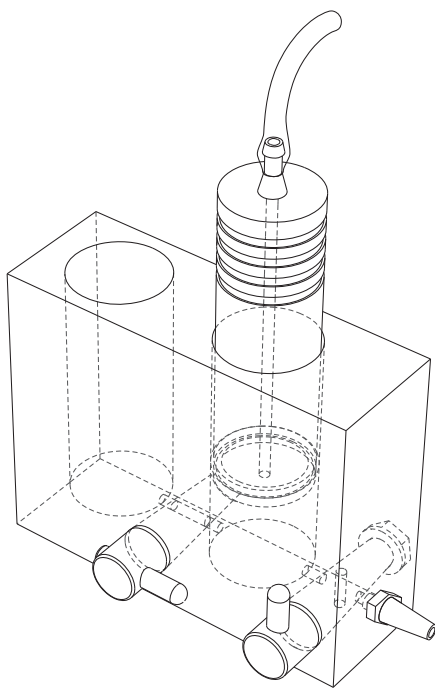

Fig 2. Gradient maker with plunger in place.
6. Add the required volume of the starting solution to the mixing chamber. With the plunger vent open, insert the plunger into the mixing chamber and press it down until it is just above the surface of the solution (Fig 2). Clamp off the tubing on the vent airtight.